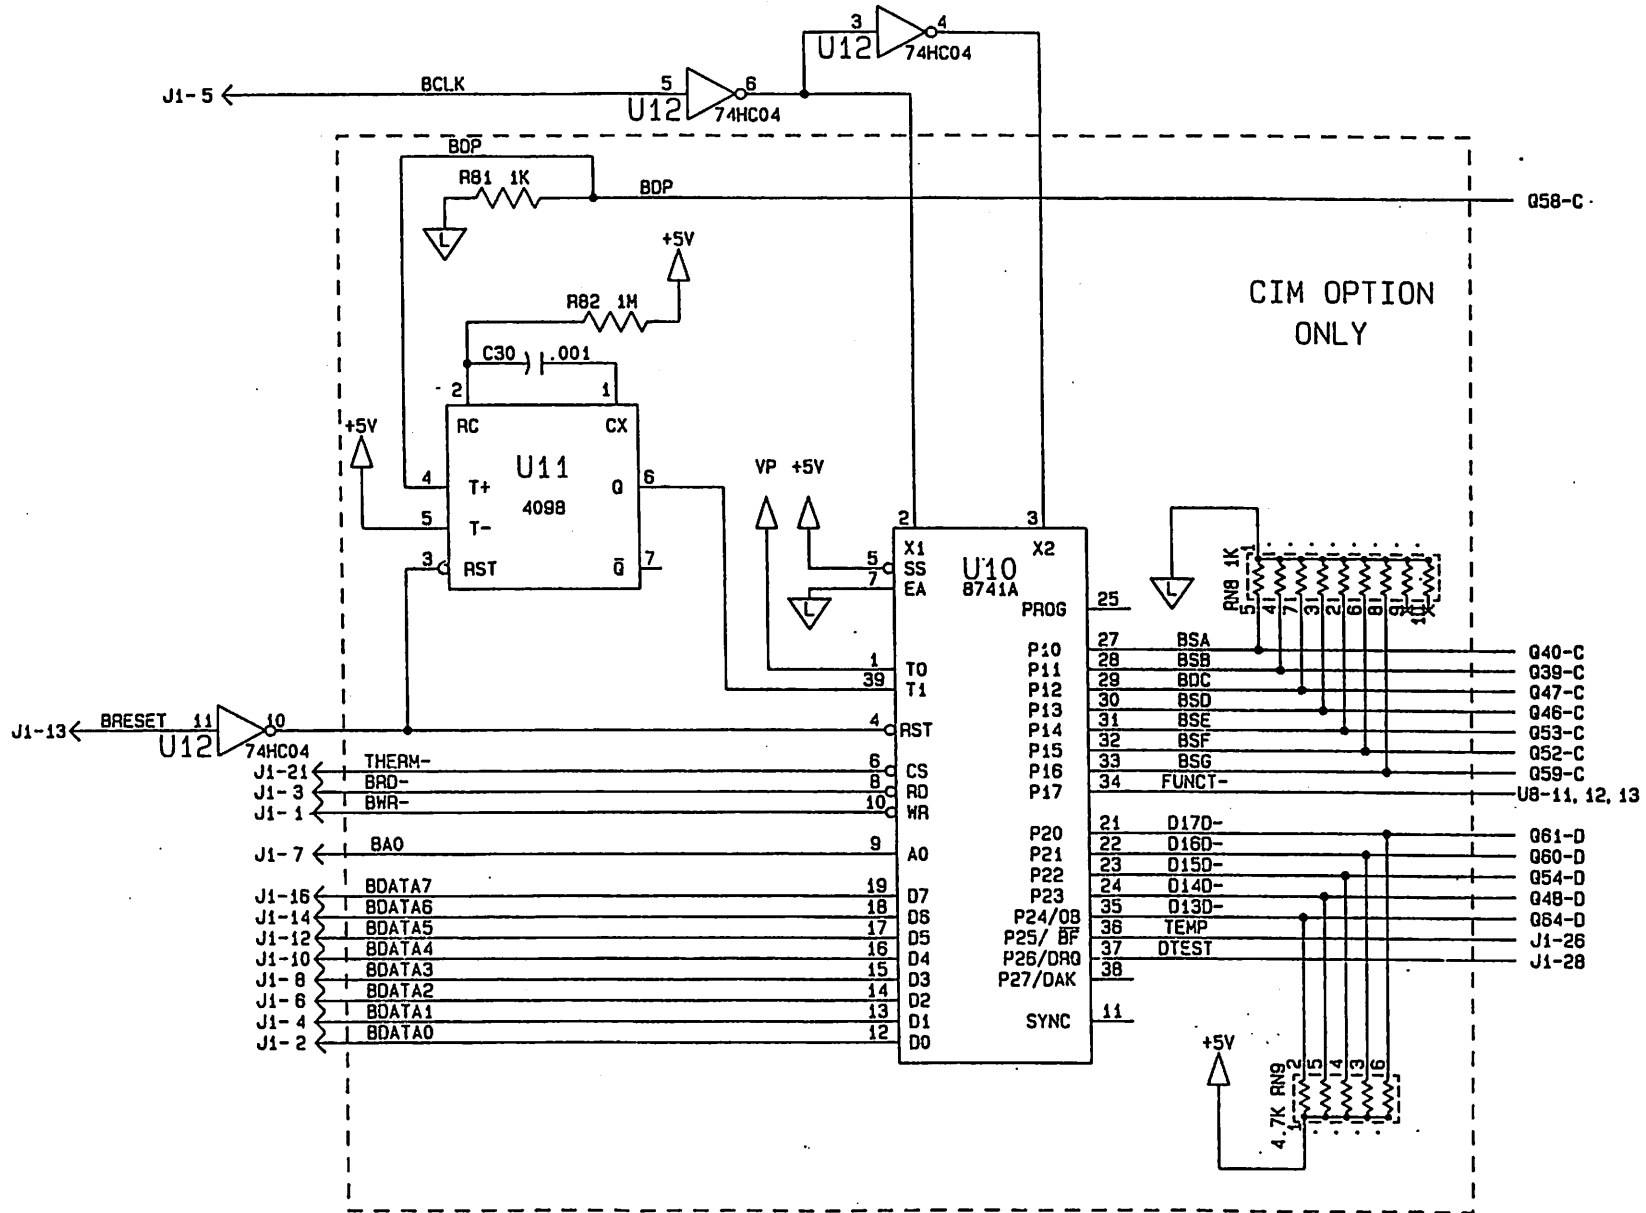

Figure 3-40. Thermometer Display Interface
3.11.2 Thermometer Display Interface Circuit (figure 3-40)